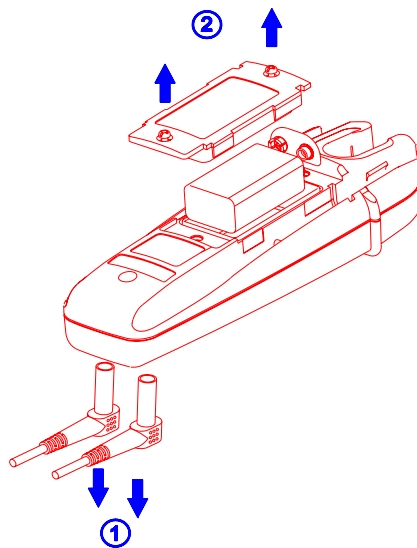

Figure 1
To open the meter case, refer to Figure 1 and do the following:
The meter is powered by a single 9V battery. To replace the battery, refer to Figure 1.
2. Refer to Figure 1 and disconnect probes from probe test points.